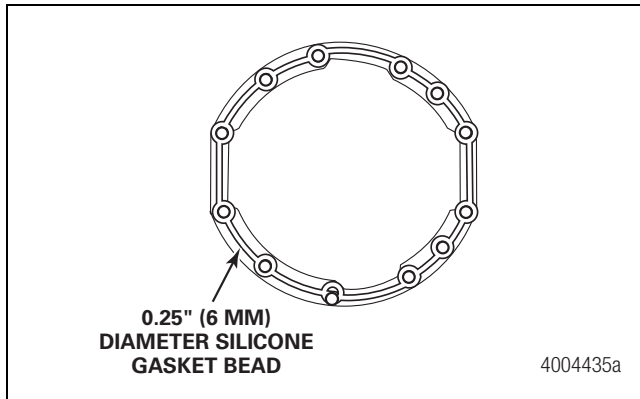

Figure 5.1
5. Apply a 0.25-inch (6 mm) continuous bead of Loctite® 5699 gasket material to the mounting surface of the housing where the carrier fastens. Figure 5.1.